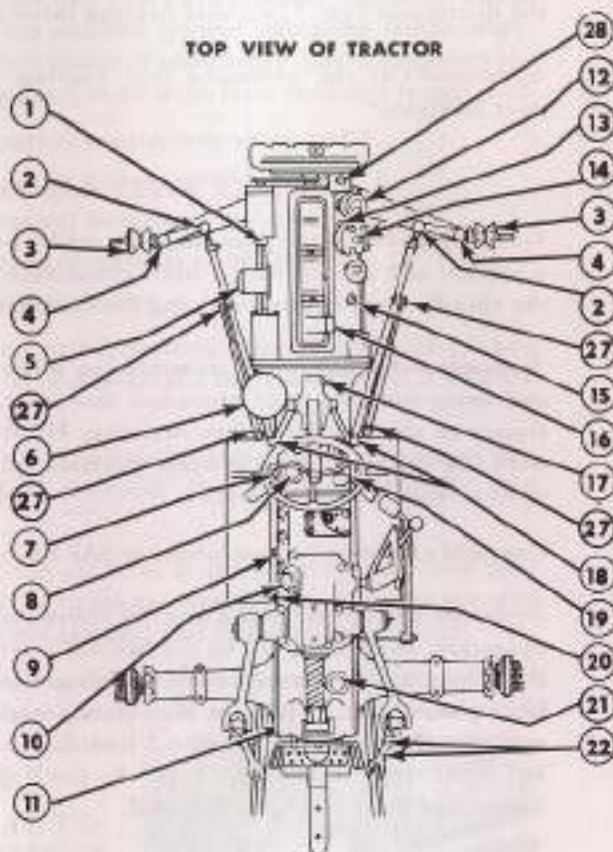

Figure 25
The location of the lubrication points described in the lubrication guide are shown in Figures 25 and 26 on pages 34 and 35.
Pressure Type Fittings: Clean the fittings on the Lift Rod Leveling Box and Fork, Front Axle Spindles, Clutch Pedal and Steering Drag Links. Apply pressure gun grease and wipe the fittings clean. See Figure 25.
Rear Axle: Remove the rear axle inspection plug (11), Figure 25, and check the level of the oil. If necessary, add oil. (See SERVICE EVERY 600 HOURS.)
Transmission: Remove the transmission oil level inspection plug (19), Figure 25, and add oil, if required. (See SERVICE EVERY 600 HOURS.)
Steering Housing: Check the oil level at the steering gear case plug (17), Figure 25, and add lubricant as required. Use extreme pressure gear lubricant SAE 90 in the summer and SAE 80 in the winter.